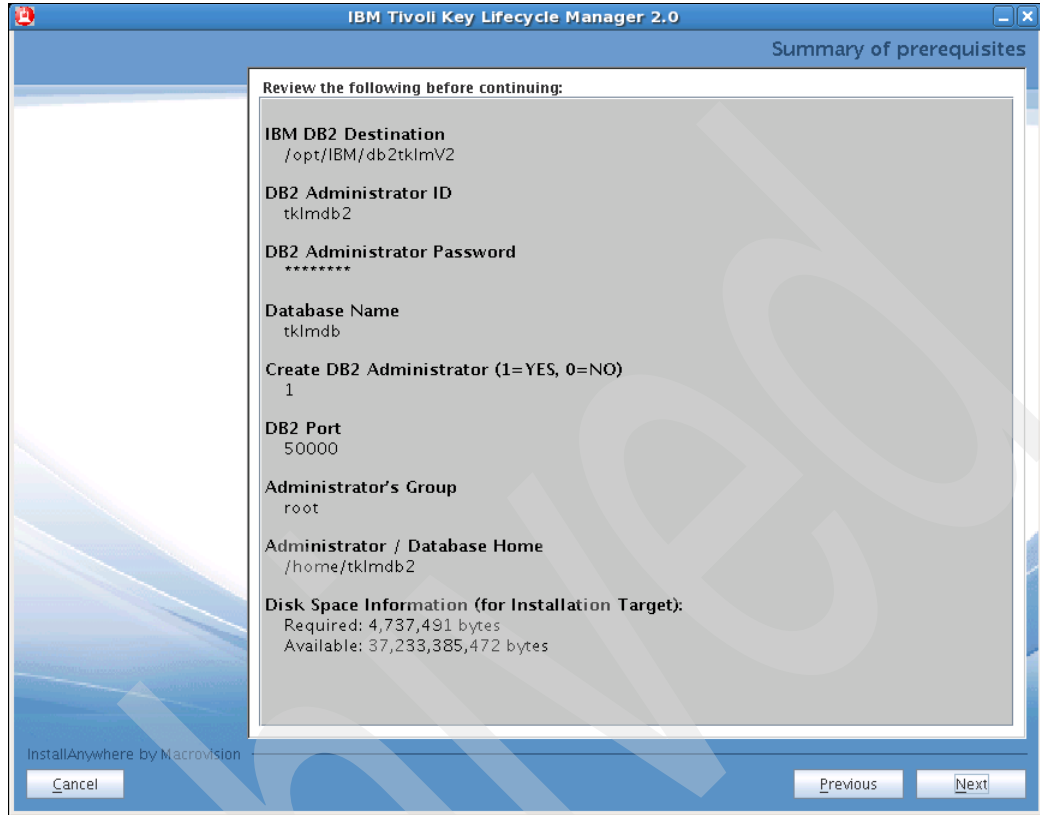

Figure 7-8 Configuration summary
11. The next screen displayed shows a summary of your previous entries (Figure 7-8). Review the configuration; if everything is correct, click **Next** to begin the TKLM v2 installation.